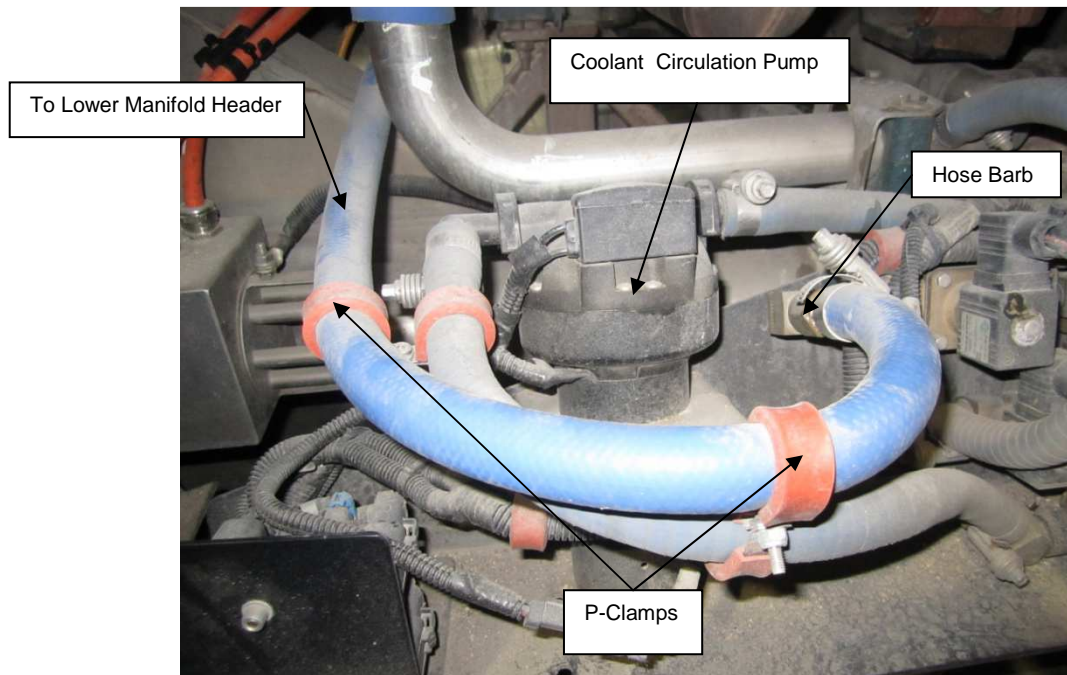

Figure 4: Hose Layout at Coolant Circulation Pump.
10. Check to make sure that the hoses are connected according to Figure 4.
11. Disconnect the hose that connects the manifold to the pump at the pump hose barb. Figure 4
12. Remove the P-clamps that locate the hose and remove the hose. Figure 4.
14. Install a new length of hose NF P/N 106197 from the pump hose barb to the coolant manifold and secure with new P-clamps NF P/N 247227 in the original locations. Figure 4.